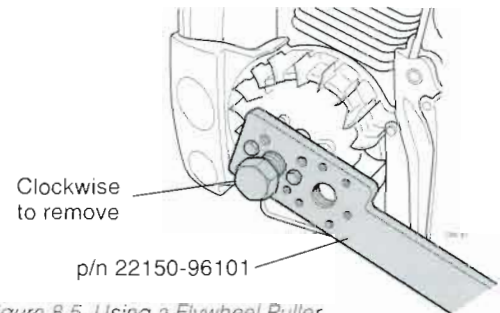

Figure 8.5 Using a Flywheel Puller
STEP 3. Install p/n 22150-96101 flywheel puller as shown, and remove the flywheel from the crankshaft. (Figure 8.5)